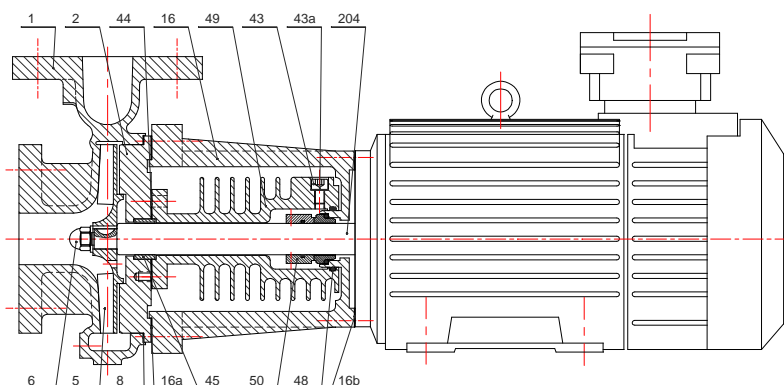

Fig 4
- 106-209-210-216-312-316-414-516-522-614-619-827 pumps can be mounted in single cell only fig 4